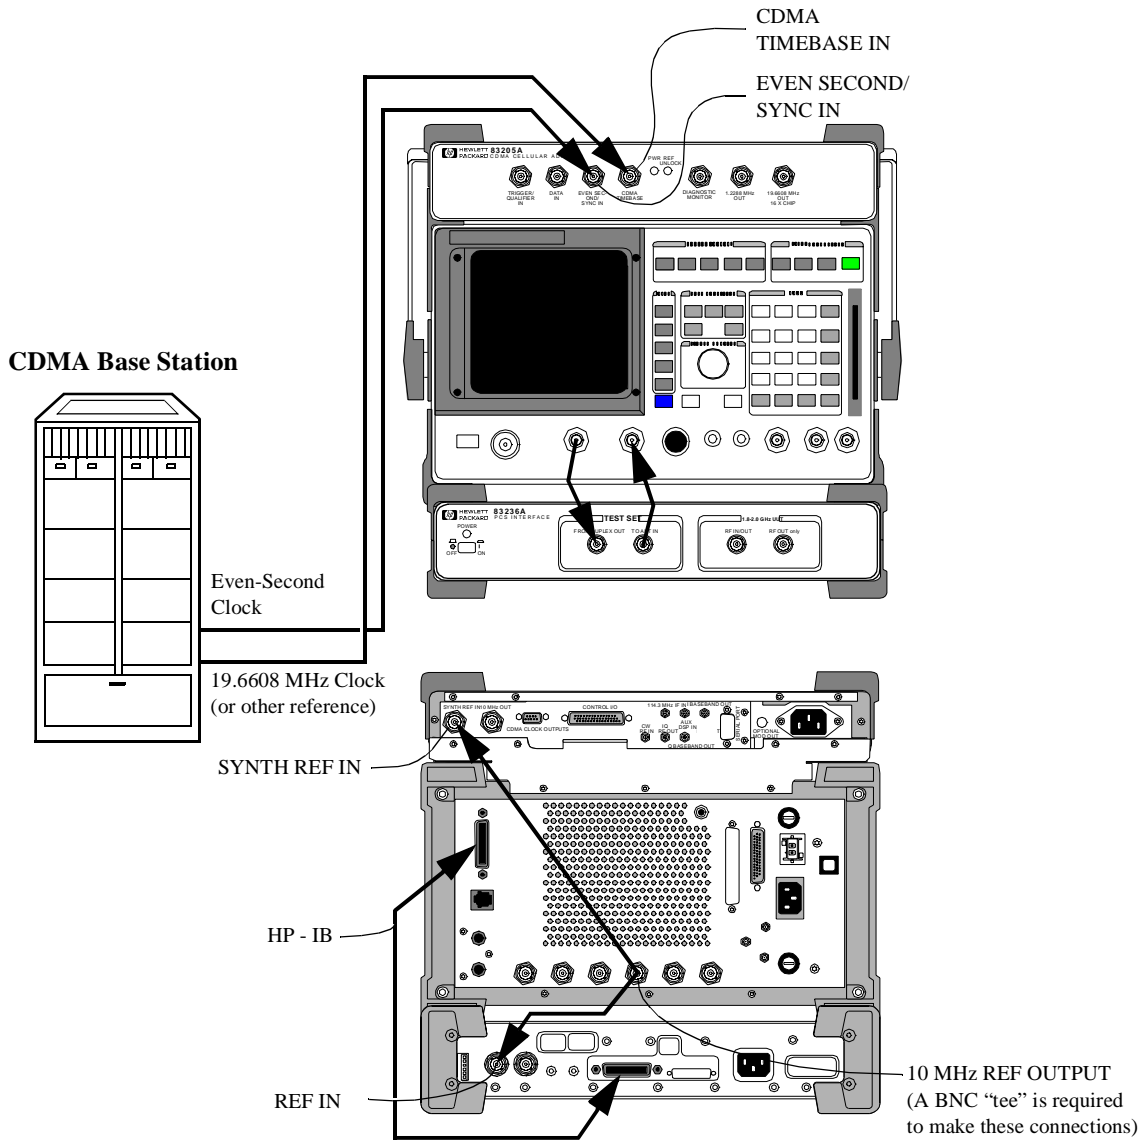

Figure 23
- 1 Connect the timebases as shown in figure 23. Note the connections from the BNC “tee” on the Test Set’s 10 MHz REF OUTPUT to both the Cellular Adapter *and* PCS Interface.